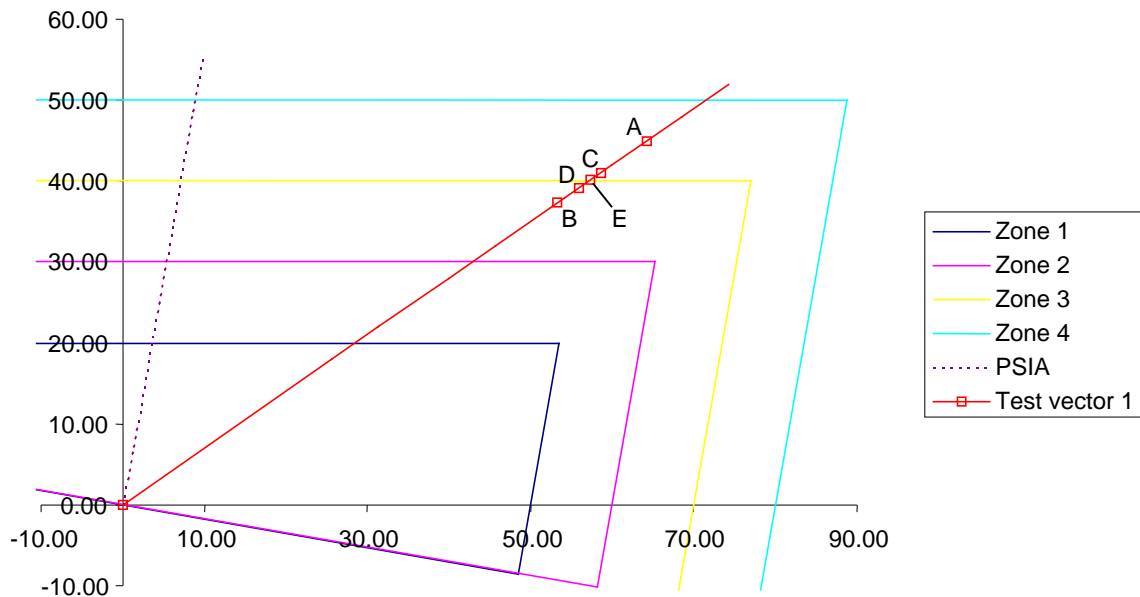

Figure 7. Finding a zone boundary by binary search
- Apply an initial impedance to the relay just outside the zone boundary under test (point A on figure 7) by setting the voltage on the DVS3 to an appropriate value using the keypad. The relay should trip in the time appropriate to the zone in which the impedance lies (zone 4 in figure 7).
- Type in a new voltage value on the DVS3 that should cause the relay to trip in the next zone (point B, zone 3 on figure 7). The relay should trip in the zone 3 delay time.